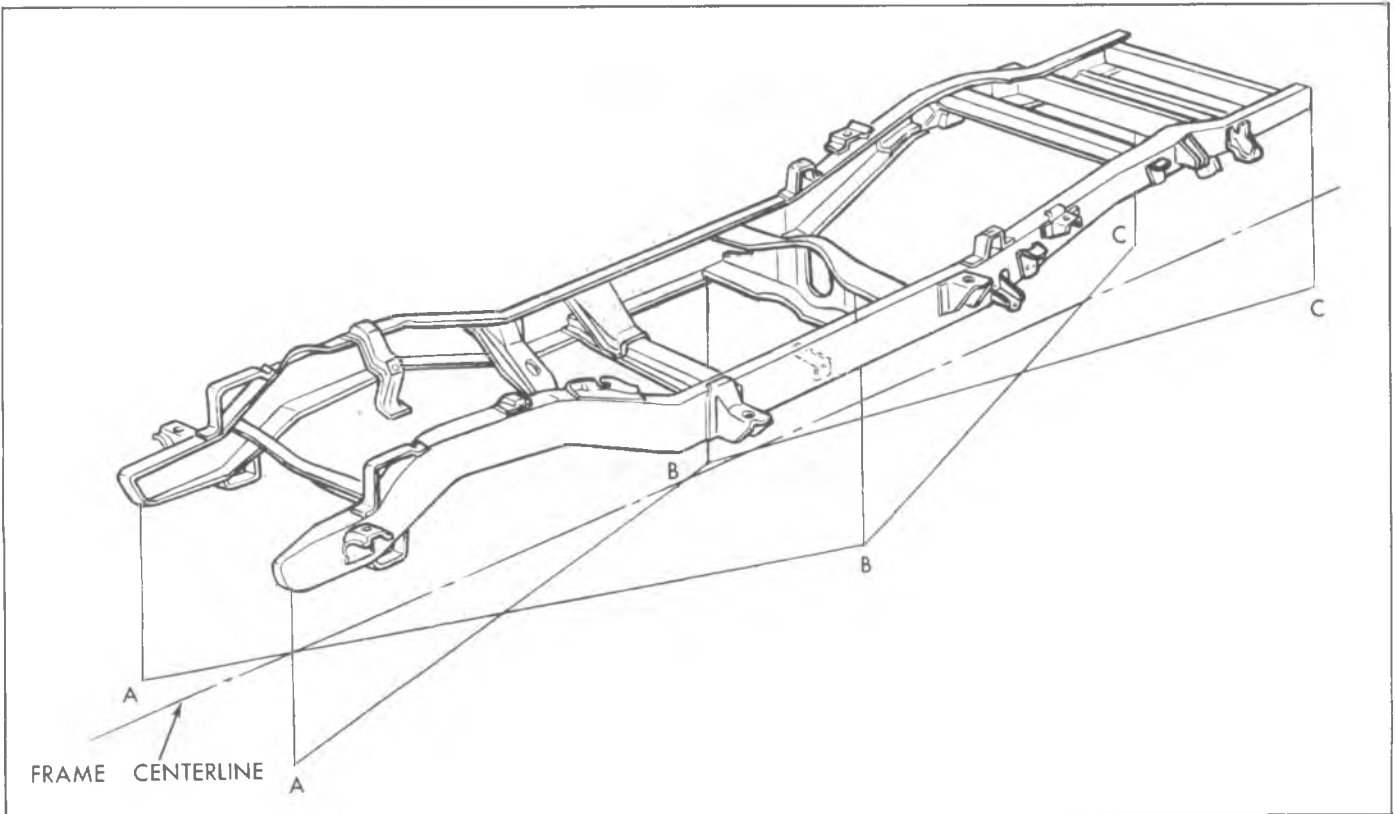

Fig. 2—Frame Horizontal Checking—Typical
Horizontal frame checking can be made with tramping gauges applied directly to the frame or by transferring selected points of measurement from the frame to the floor by means of a plum bob and using the floor layout for measuring. Figure 2 may be used as a general guide in the selection of checking points; however, selection of these points is arbitrary depending on accessibility and convenience. An important point to remember is that for each point selected on one side of the frame, a corresponding point on the opposite side of the frame must be used for vertical checks, opposite and alternate sides for horizontal checks.
3. If a tram bar is used, for horizontal alignment "X" - check from opposite and alternate reference points AA, BB and CC, as illustrated by the lines in Figure 2. Error will result if a tram bar is not level and centered at the reference points.